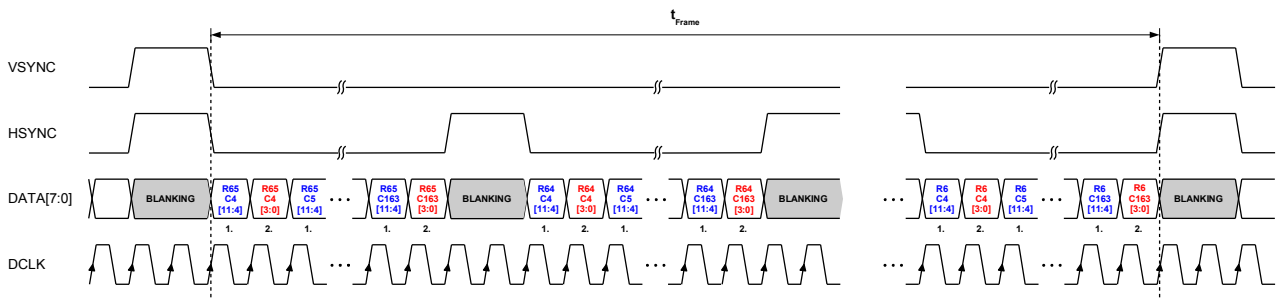

Figure 36: msb/lb split mode
- msb/lb split mode: Transfers 12 bit pixel data with MSByte leading and LSByte trailing with 2x DCLK. Refer to Table 17 and Figure 36.